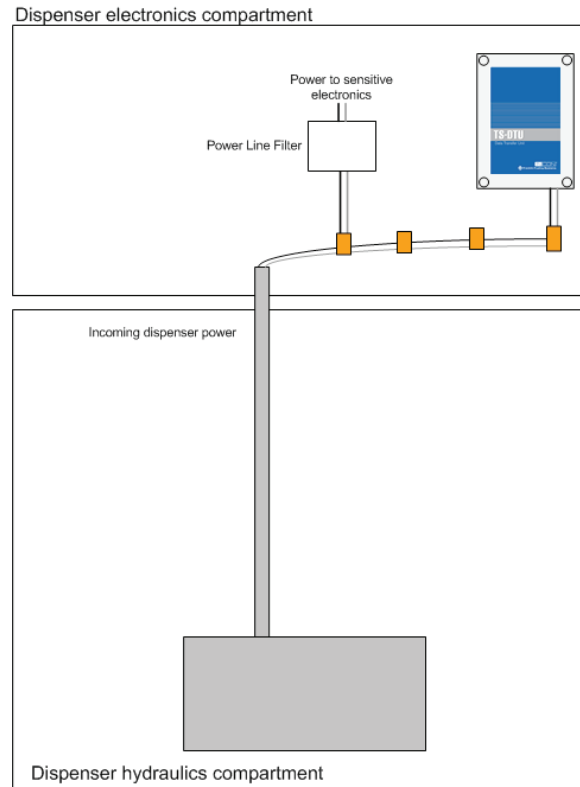

Figure 3 - Power Line Filter loading DTU signal
3. Remote signal strength is not strong enough. If the Remote DTU signal has been attenuated (loses strength) then the Console DTU may not be able to reliably read the incoming data. This is a common issue when there are power line filters installed inside the dispenser as they try and filter the signals as if it was noise. See Figure 3.